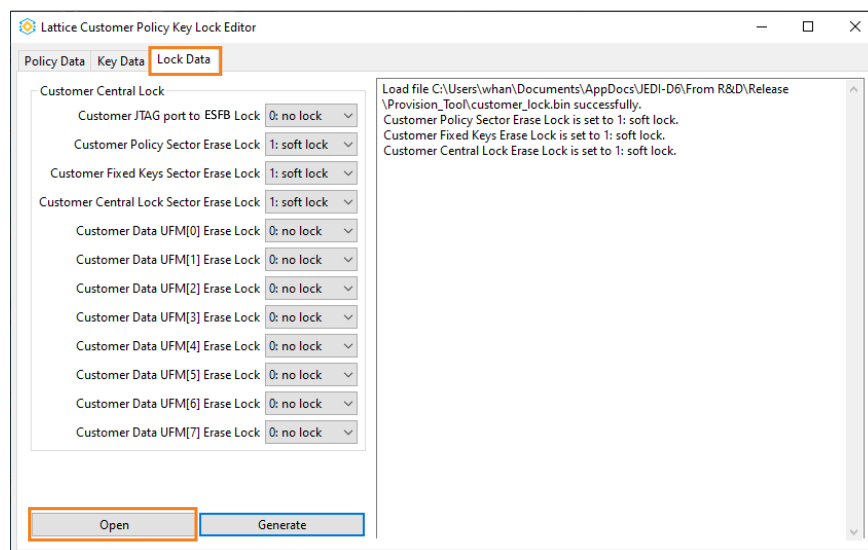

Figure 2.6. Modify the Central Lock Data
2. If the user needs to modify the existing Central Lock Data, click the **Open** button to open the Central Lock Data file to get the current Central Lock Data setting. Figure 2.6 shows the example settings in Lock Data tab.